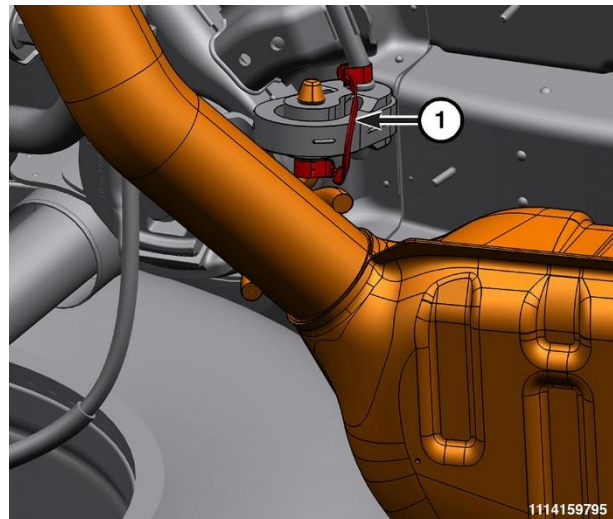

Figure 6 – Exhaust Ground Strap
10. **All vehicles:** Remove the exhaust ground strap (1) (Figure 6).